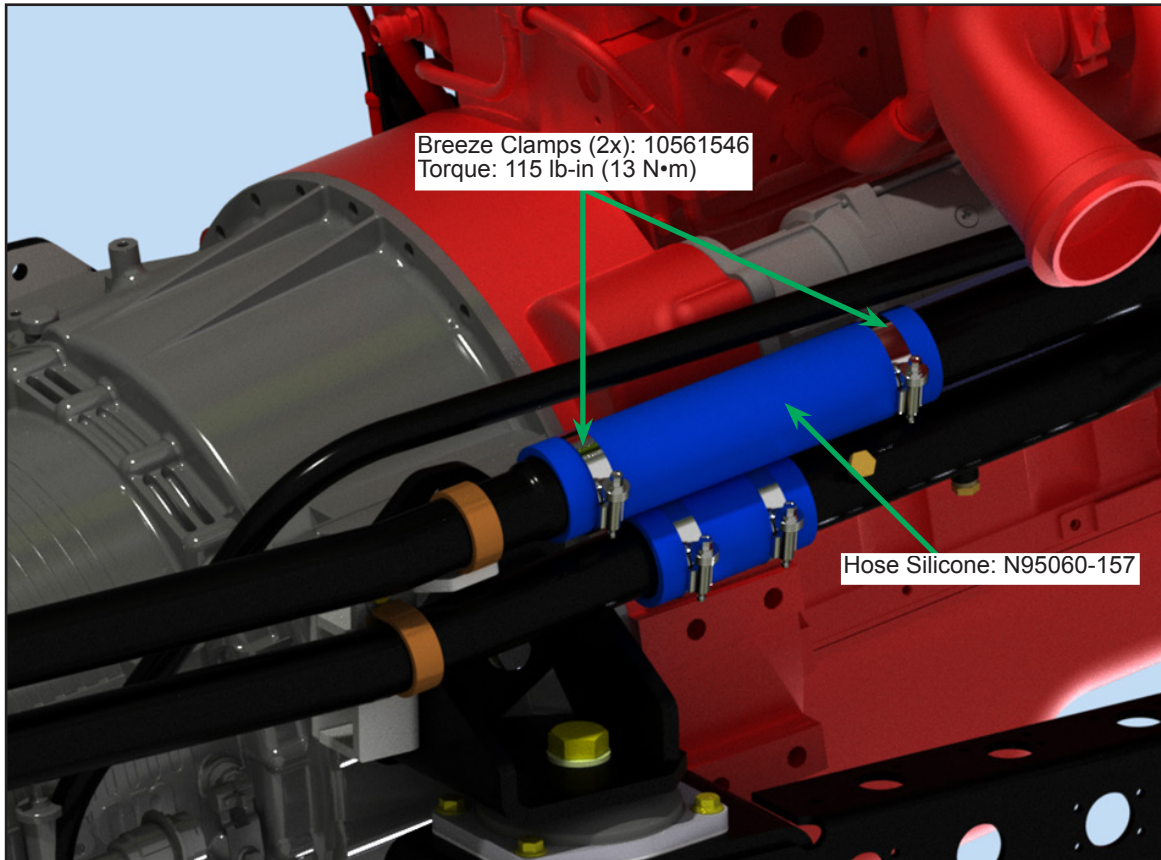

Figure 9 - Installation of Hose Silicone and Breeze Clamps
- 1.16. Install the breeze clamps (10561546) and hose (N95060-157). Tighten the clamps to specified torque (see Figure 9).